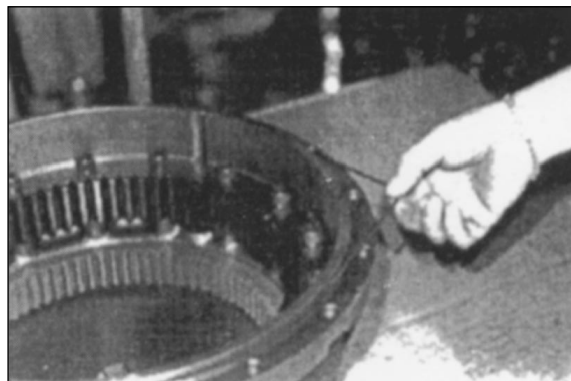

Figure 110
20. Install O-ring to end cover. Figure 110.